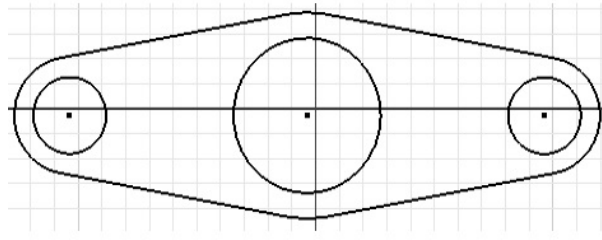

Figure 4-92 *Sketch after creating the outer loop and the three circles*
8. Next, draw three circles concentric to the three trimmed arcs. Add the **Equal** constraint between the left and right circles. The sketch after drawing the circles and applying the **Equal** constraint to them should look similar to the one shown in Figure 4-92.